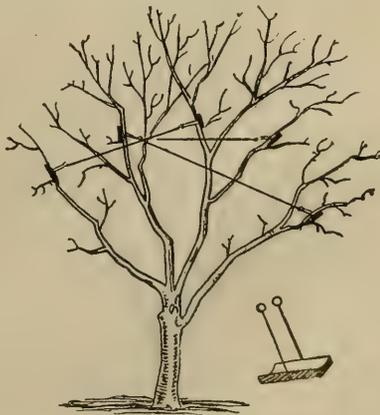

Fig. 111, Shows how to wire-brace a top.
- d. Fig. 111 shows how to brace a top by using wire braces.